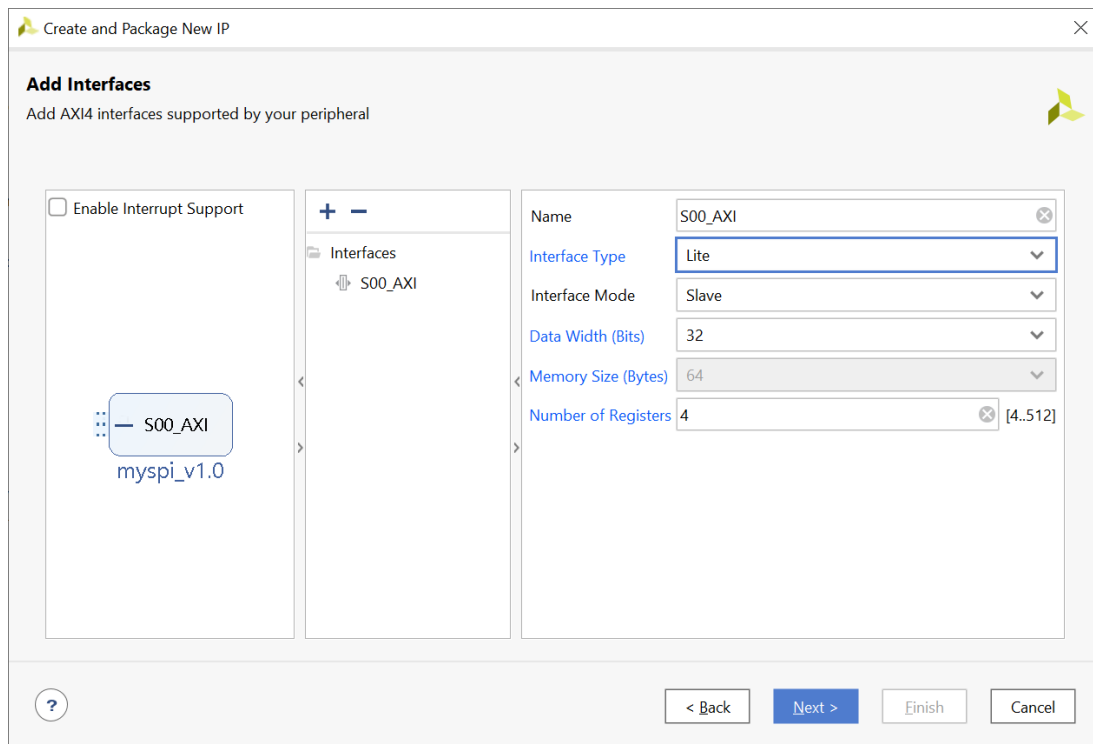

Figure 2: Create a new AXI peripheral (cont).
- 2) Since myspi will be connected to a JTAG-AXI master, it needs a slave port. Configure the IP as shown in Figure 2. Click “Next”.